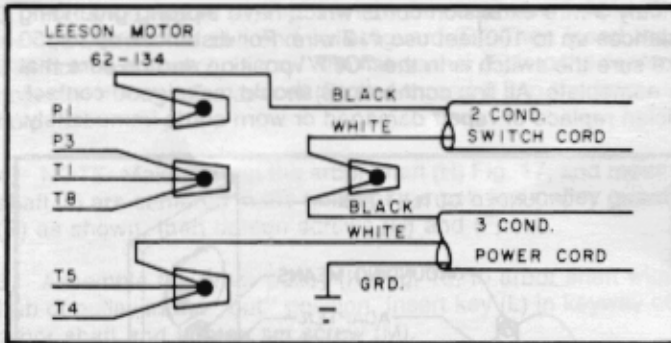

Fig. 26
5. If your motor is manufactured by Leeson Electric Corporation, refer to Fig. 26. To reverse the rotation of the motor, interchange motor leads T5 and T8.